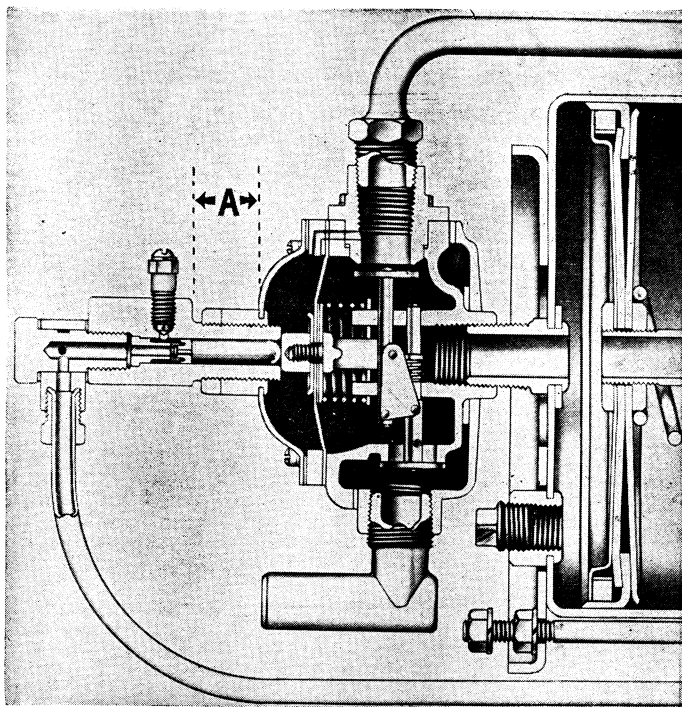

Fig. 25 Detail of control valve mechanism
49. Thread control valve hydraulic cylinder into control valve cover until dimension "A", Fig. 25, is between  $\frac{1}{16}$  and  $\frac{1}{8}$ ".